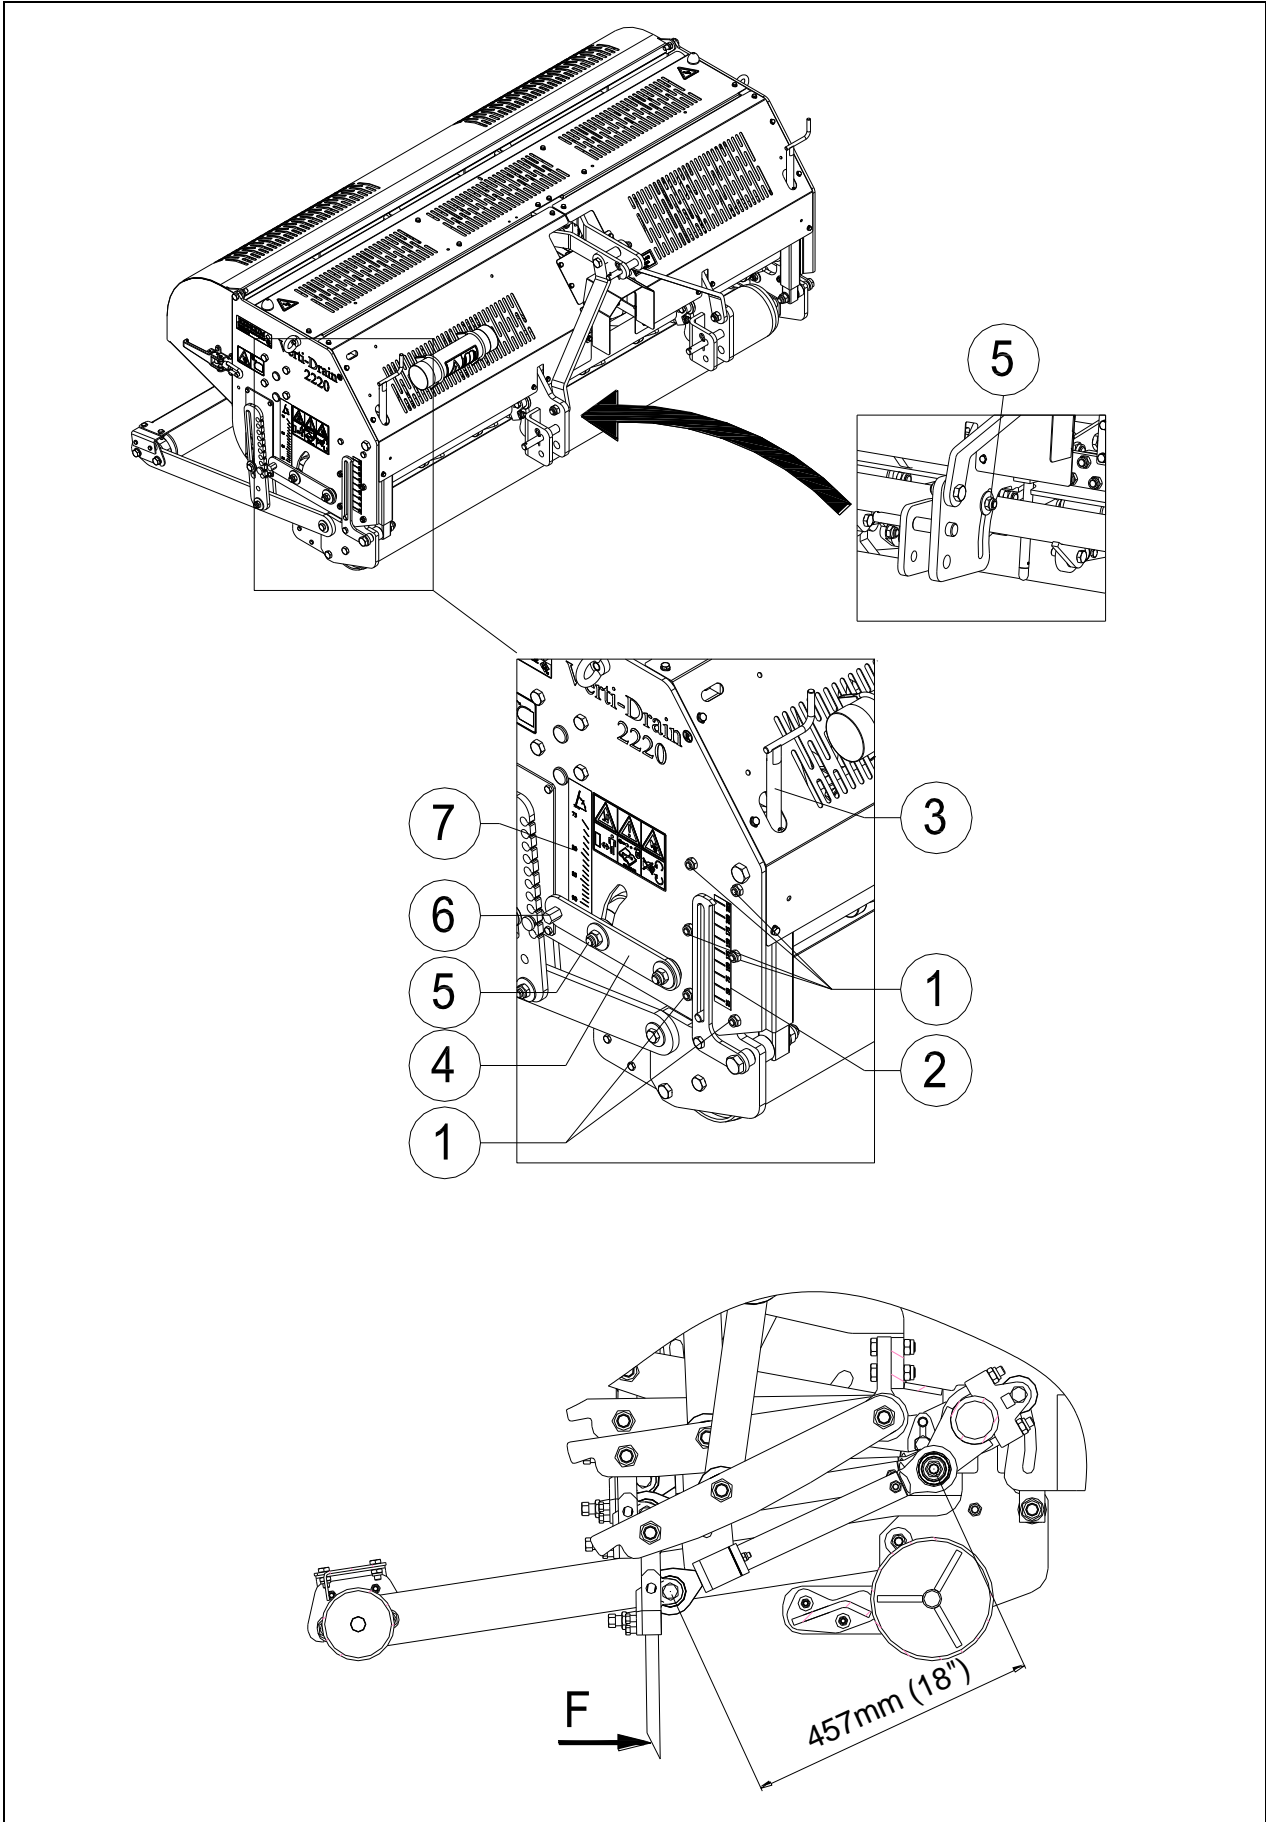

Fig. 10
The working depth can be adjusted when the machine is lifted, see Figure 10. Tighten the nuts one by one turn on both sides of the machine. Then turn on or off spindle 3. The sticker 2 on the side of the machine, the depth setting. If the correct working depth is reached, tighten the nuts 1 again.
All pins can be adjusted simultaneously with the handles (4) at the side of the machine (see Figure 10). Raise the machine above the ground and loosen the check nuts (5) at both sides of the machine. Adjust the angle by putting the supplied ring spanner on the hexagon (6) of the handle (4). The indicator (7) gives the angle. Remove the supplied ring spanner and tighten the check nuts (5).
- ⚠ In case of 90°, the pins go into the ground perpendicularly only if the machine is correctly installed (see Figure 10). If the machine is incorrectly installed, a force F can occur which damages the machine.